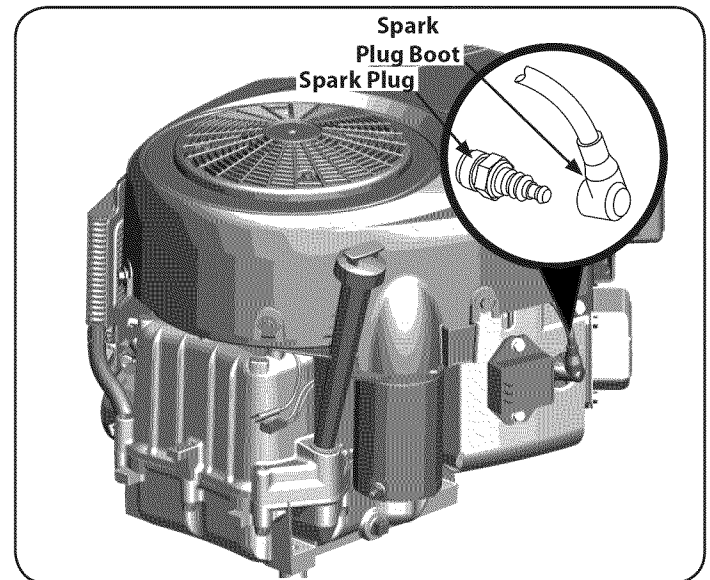

Figure 25
- Remove the spark plug boot and use a spark plug wrench to remove the plug, Figure 25.